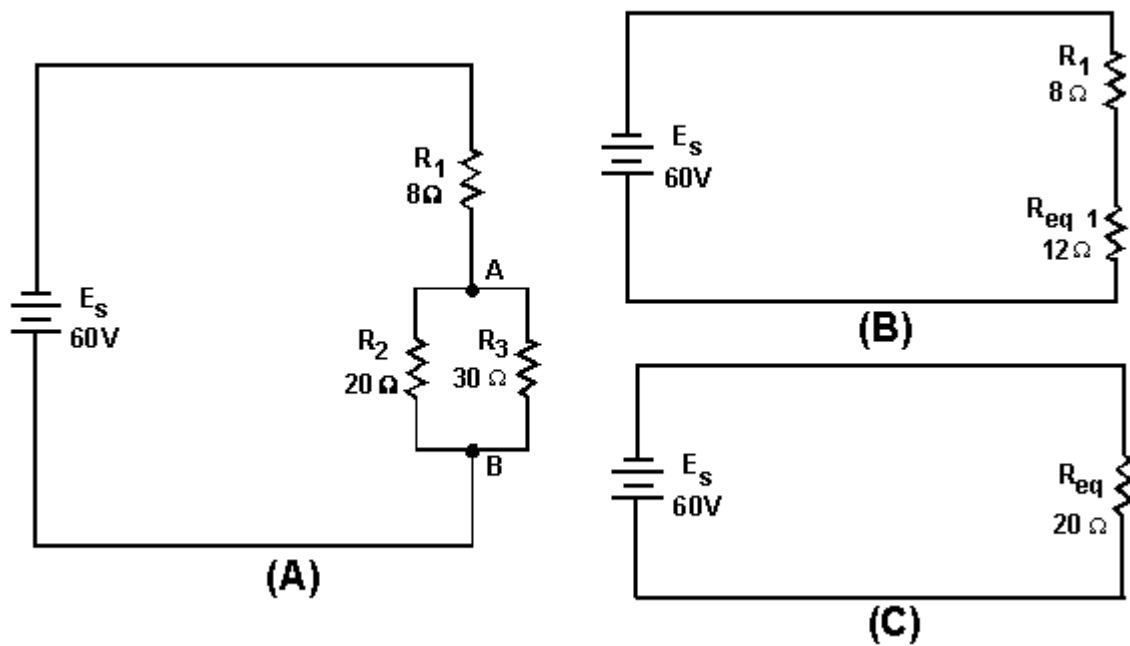

Figure 3-54.—Example combination circuit.
The basic technique used for solving dc combination-circuit problems is the use of equivalent circuits. To simplify a complex circuit to a simple circuit containing only one load, equivalent circuits are substituted (on paper) for the complex circuit they represent. To demonstrate the method used to solve combination circuit problems, the network shown in figure 3-54(A) will be used to calculate various circuit quantities, such as resistance, current, voltage, and power.
Now that the equivalent resistance for R_2 and R_3 has been calculated, the circuit can be redrawn as a series circuit as shown in figure 3-54(B).
The original circuit can be redrawn with a single resistor that represents the equivalent resistance of the entire circuit as shown in figure 3-54(C).
To find the voltage dropped across R_1 , R_2 , and R_3 , refer to figure 3-54(B). R_{eq1} represents the parallel network of R_2 and R_3 . Since the voltage across each branch of a parallel circuit is equal, the voltage across R_{eq1} (E_{eq1}) will be equal to the voltage across R_2 (E_{R2}) and also equal to the voltage across R_3 (E_{R3}).
To find the current through R_2 and R_3 , refer to the original circuit, figure 3-54(A). You know E_{R2} and E_{R3} from previous calculation.
Having computed all the currents and voltages of figure 3-54, a complete description of the operation of the circuit can be made. The total current of 3 amps leaves the negative terminal of the battery and flows through the 8-ohm resistor (R_1). In so doing, a voltage drop of 24 volts occurs across resistor R_1 . At point A, this 3-ampere current divides into two currents. Of the total current, 1.8 amps flows through the 20-ohm resistor. The remaining current of 1.2 amps flows from point A, down through the 30-ohm resistor to point B. This current produces a voltage drop of 36 volts across the 30-ohm resistor. (Notice that the voltage drops across the 20- and 30-ohm resistors are the same.) The two branch currents of 1.8 and 1.2 amps combine at junction B and the total current of 3 amps flows back to the source. The action of the circuit has been completely described with the exception of power consumed, which could be described using the values previously computed.